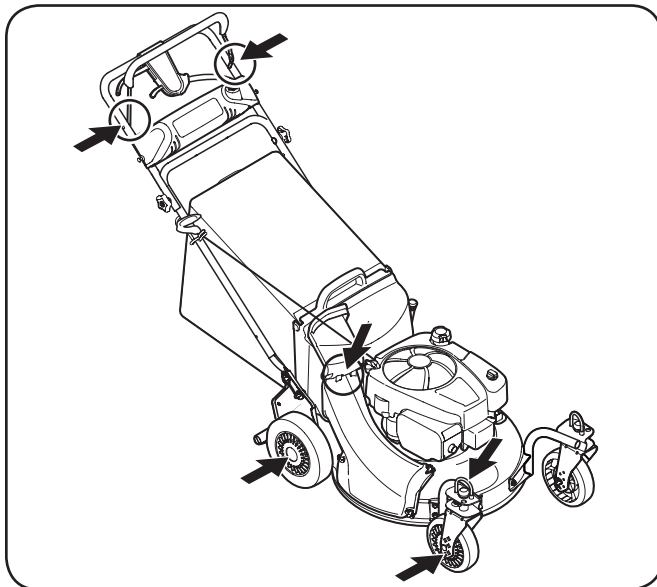

Figure 6-1
1. Lubricate pivot points on the blade control at least once a season with light oil. The blade control must operate freely in both directions. See Figure 6-1.
2. Lubricate the wheels and casters at least once a season with light oil (or motor oil). If wheels are removed for any reason, lubricate the axle bolt and inner surface of the wheel with light oil. See Figure 6-1.
3. Lubricate the torsion spring and pivot point on each end of the grass catcher adapter door at least once a season with light oil to prevent rust. See Figure 6-1.